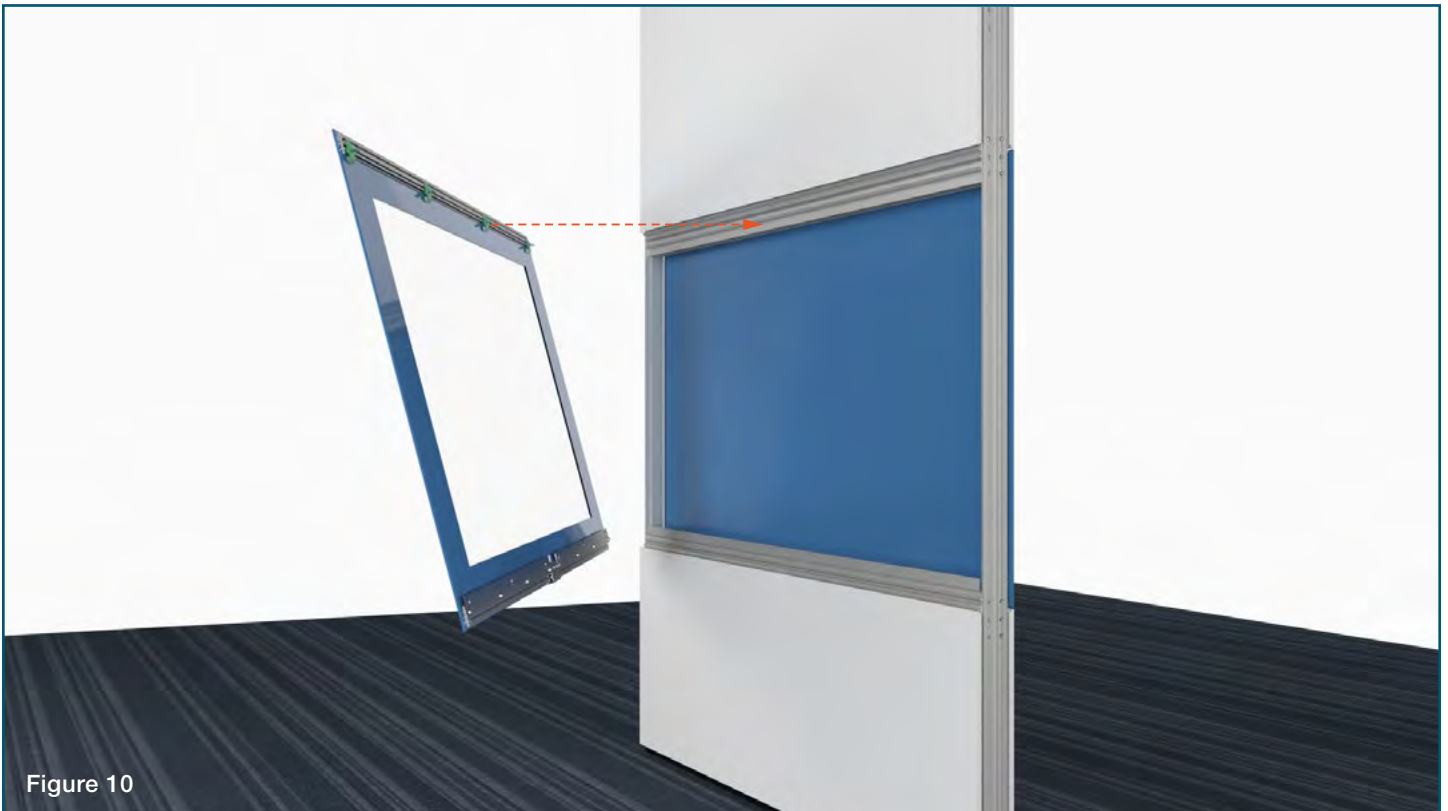

Figure 10
- 01** Angle and connect back-painted glass panel to the Panel Hooks (12427) onto the horizontal extrusion (Figure 10).